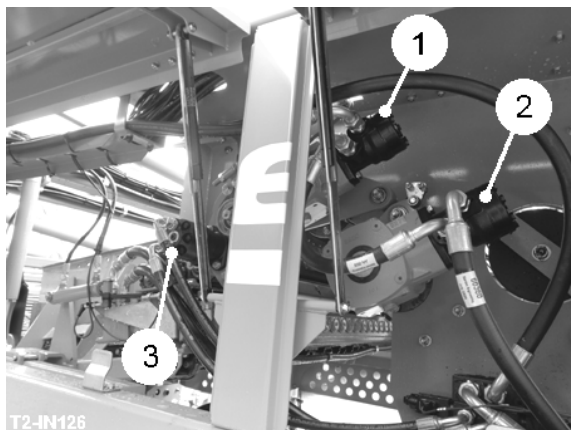
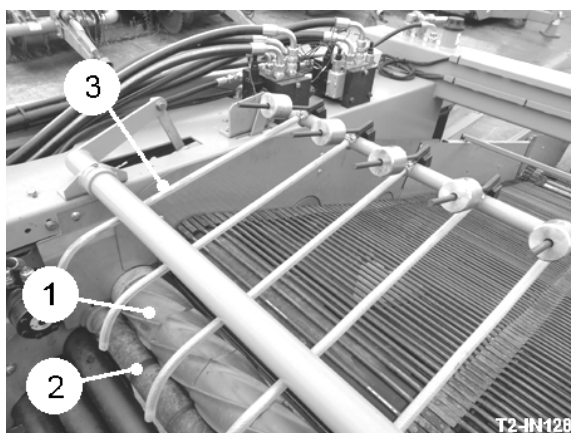
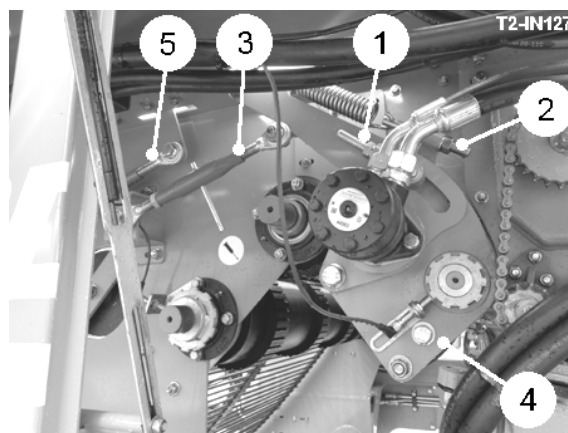

Fig 9
Fig 13
Fig 14
The 1630mm wide sieving web is available in 28mm, 32mm, 36mm, 40mm, 45mm and 50mm pitches to suit the crop and soil conditions being harvested. The sieving web drive uses the 'Standen Wrap Drive' configuration fitted with a reverse running assister drive on the return side. This gives a virtually slip-free drive under most conditions and eliminates web drive sprockets allowing for easy web pitch changes. The web is driven by two shaft mounted motor gearboxes. The hydraulic motor (item 1, fig 9) drives the main drive shaft. The motor (item 2, fig 9) drives the assister drive shaft.
The scroll shaft (item 1, fig 13) transfers the crop over the haulm roller (item 2, fig 13). The haulm roller is designed to pinch the haulm and trash and drop it onto the ground under the machine. The haulm roller is driven by the hydraulic motor (item 3, fig 9). Haulm roller speed is controlled from the touch-screen. For some types of crop such as onions etc. it is advantageous to reverse the direction of rotation of the haulm roller. To reverse the haulm roller, simply press the button  on the touch-screen.
To increase/decrease the gap between the haulm roller and the scroll shaft, set the stop screws (item 1, fig 14) equally on both sides of the machine. Check the setting by measuring the length of exposed thread. To increase/decrease the haulm roller spring tension, adjust the spring tensioner (item 2, fig 14). Adjust both sides evenly.
Raising/lowering the haulm roller relative to the scroll alters the amount of material the haulm roller removes. The roller position is set by adjusting the turnbuckle (item 3, fig 14). The higher the haulm roller is positioned relative to the scroll roller, the more material will be removed. Lowering the roller will allow the flow of material to pass over the top of the roller. Adjusting the haulm roller until the maximum amount of haulm is removed with the minimum amount of potatoes being pulled through or nipped requires careful setting. This setting will need to be altered for different crop conditions, but the initial setting should start with the roller well down and then gradually raising it up. For effective harvesting this is one of the most critical adjustments.
The haulm roller is fitted with a scraper (item 4, fig 14). Set the scraper as close to the roller as possible without actually fouling it.
The function of the haulm fingers (item 3, fig 13) is to catch the haulm and direct it down into the haulm roller. Moving the haulm fingers away from the scroll roller will allow a clearer flow for the crop. In green top or heavy trash it may be necessary to rotate some of the fingers out of the crop flow to prevent overloading of the haulm roller and excessive damage to the crop. By adjusting the turnbuckle (item 5, fig 14) the fingers can be raised or lowered. A plastic sleeve is fitted to each finger. The sleeves prevent bruising of the potatoes and should be replaced when they wear through or are lost.